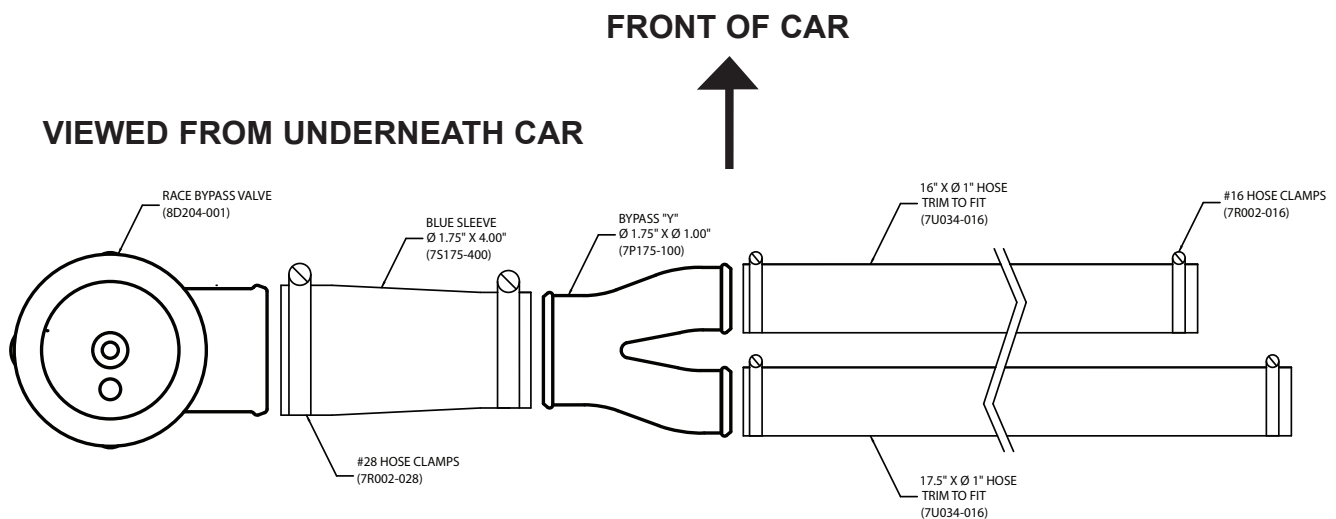

Fig. 8.3
1. Assemble the bypass using the supplied Maxflow Race Bypass valve, Ø 1.75" silicone coupler with two #28 hose clamps, Bypass "Y", and two lengths of 1" hose cut to lengths of 16" and 17.5" with four #16 hose clamps. (See Fig. 8.3)